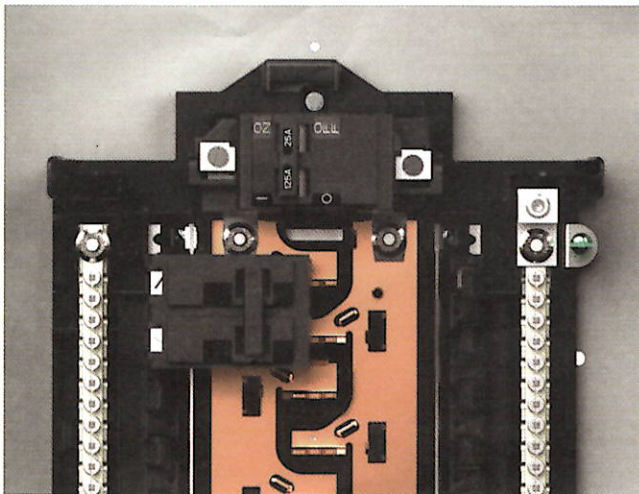

FIG. 2 Install Interlock
- 4) Push the interlock assembly onto the breakers as shown until the snaps engage the standby breaker (Fig. 2)